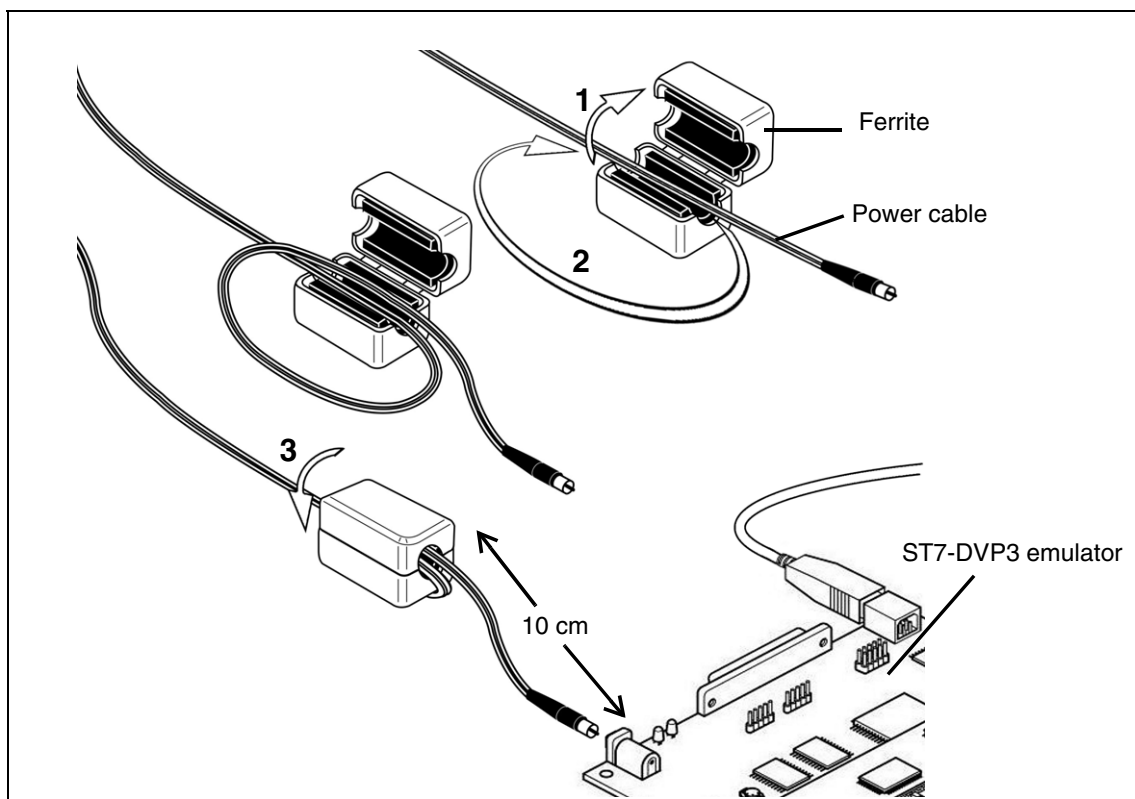

Figure 9: Connecting the ferrite clip
- 2 Install the provided ferrite clip on the cord running between the emulator and the power supply, approximately 10 cm from your emulator (see Figure 9).